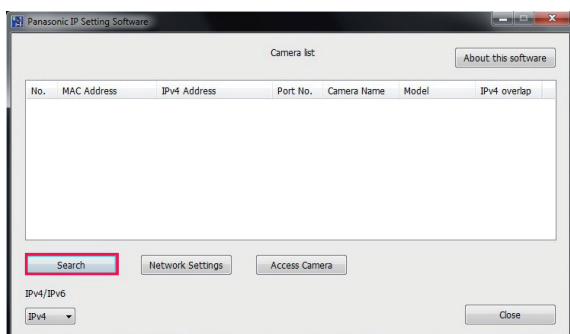

Fig. 1
**2** Click the [Search] button. (Fig. 1)